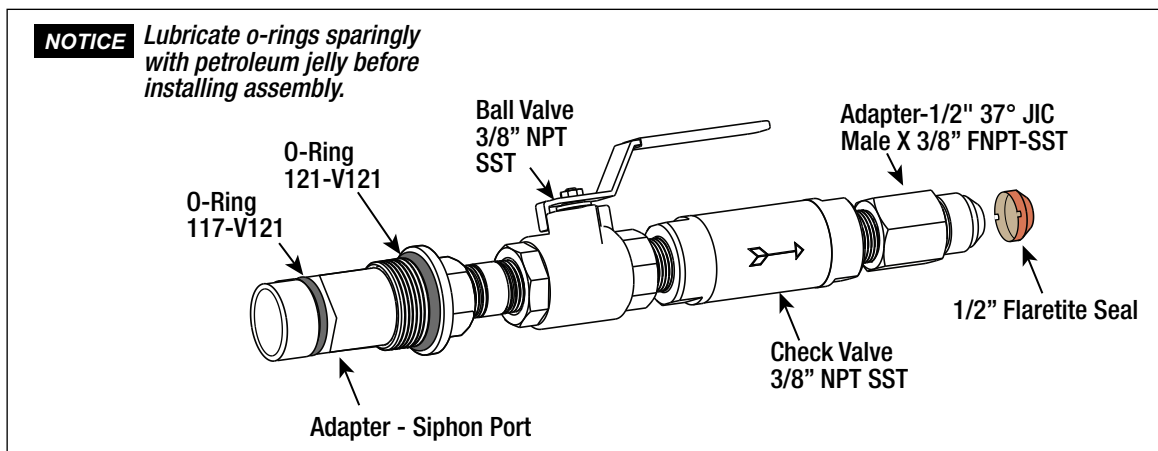
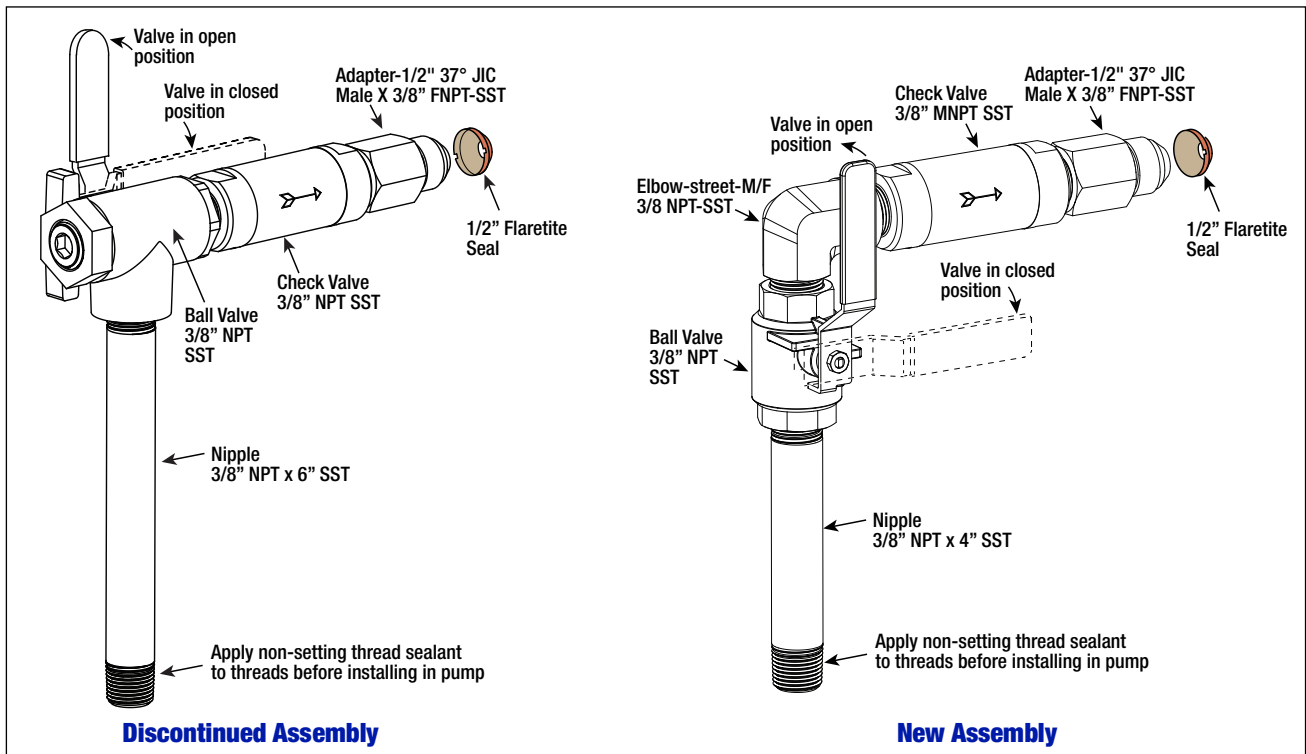

Figure 14. TRJ Pump Siphon Port Assembly
Figure 18. FE Petro STP Adapter Assemblies
3. Lubricate the two o-rings of the STP Adapter Assembly with petroleum jelly and install the assembly into the siphon port of the STP and tighten securely (see Figure 14).
6. Get the STP Adapter Assembly from the kit (see Figure 18).
2. Place a 1/2" flaretite seal from the kit onto the 1/2" JIC fitting at the top of the STP Adapter Assembly and attach the 1/2" JIC elbow end of the hose to it (see flaretite seal placement example in Figure 14 or Figure 18 as required).